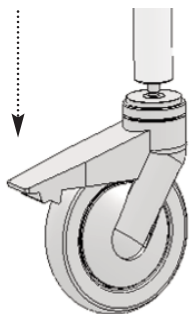

Figure 18
**B Caster Wheels:** When transferring into the chair, out of the chair and sliding the user from the roll-in section into the tub section, all four caster wheels should be securely locked in place. Failure to do so could cause the chair to become unstable (Refer to Figure 18).